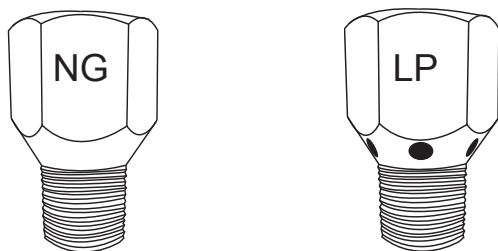

Fig. 5 Natural (NG) orifice on left; LP (vent holes) on right.
4. The primary gas shut-off (not supplied) will require a 1/2" male flared fitting to enable connection of the stainless steel flex gas line (not supplied) with the fire feature (see Fig. 5 page 9).
5. Do not place an LP tank inside any fire pit enclosure. Locate all Liquid Propane (LP) tanks outside the enclosure.
Main Burner Orifice - All fire pits **MUST** have a main burner orifice installed on the inlet side of the burner. An orifice limits the amount of gas flow to the burner to ensure the flame is a safe and reasonable height to not pose a risk to people or property. The drawings below show the difference between a Natural gas and Propane (LP) orifice. Because LP gas does not burn as clean as Natural and requires ventilation holes at the base of the orifice to provide a cleaner flame. See Fig. 5.
The GOE-30VDC power supply is to be installed inside the enclosure due to the wire length limitations. The power cord is 3-feet long the 30VDC leads to the valve are 3-feet long. See Fig. 5.